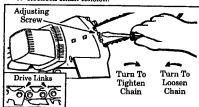

Figure 11
3. Turn the adjusting screw clockwise until the drive links on the chain enter the guide bar groove. Figure 11 (inset).
NOTE: To tighten the chain, turn the adjusting screw clockwise; to loosen the chain, turn the adjusting screw counterclockwise. Figure 11.